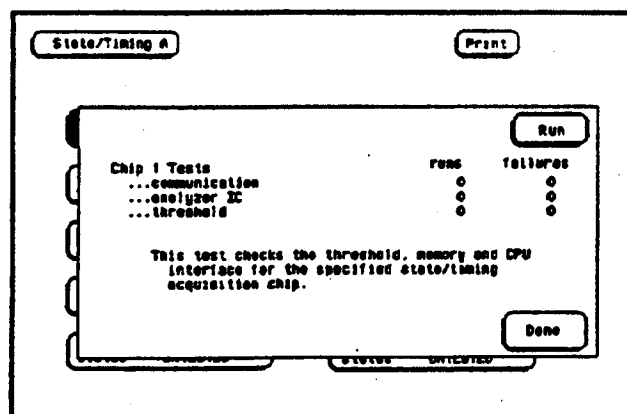

Figure 6-6. Chip 1 Test Run Screen
- g. An individual test run screen, see figure 6-6, will give the test name, a brief description of the test, number of test runs, and the number of test failures.